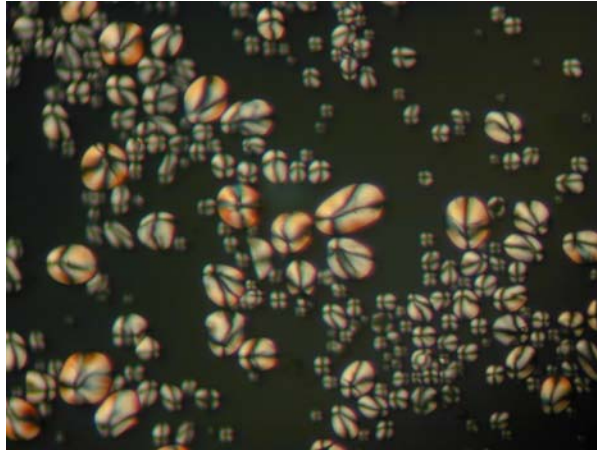

Figure 2. Each potato starch grain shows a Maltese cross when polarizing filters are crossed.
5. Observe the diagnostic Maltese cross (Fig. 2) that appears in each starch grain of potato in cross-polarized light.